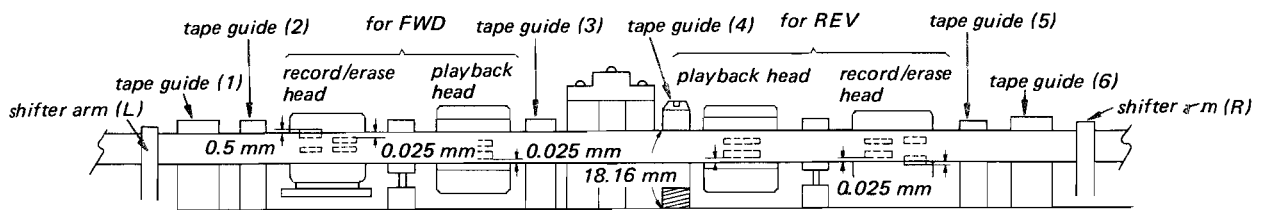

Fig. 3-26. Head adjustment
- 8. Make sure that the positioning relation between the head core and the tape is correct. See Fig. 3-26.